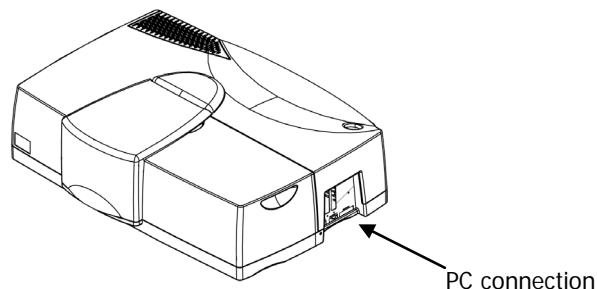

Figure 11 PC connection
- ∅ The PC is connected using the connection marked COMPUTER or the USB connection marked  on the right side of the instrument, as shown in Figure 11.